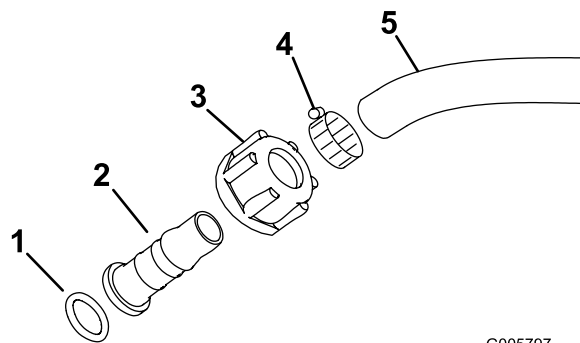

Figure 20
12. Use the following procedure to assemble the rinse nozzle hose as shown in (Figure 20). Locate a small, clear O-ring, the hose barb, small retainer nut, metal clamp, and rinse nozzle hose in loose parts.